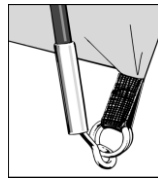

Figure 1
4. Locate one end of each diagonal pole onto pin system at groundsheet corners (see figure 1).